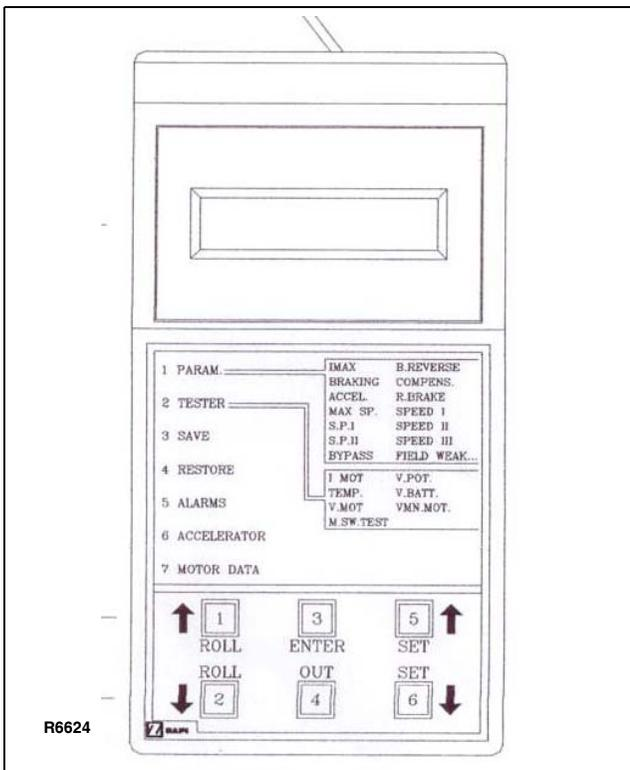

Figure 3-2 Zapi Handset
2. Press the ENTER button (3, Figure 3-2) to enter the MAIN MENU.
3. Press the ROLL down button (1) or the ROLL up button (2) to find the PARAMETER CHANGE display.
4. Press the ENTER button (3) to view the parameters.
5. Press the ROLL down button (2) or the ROLL up button (1) to find the parameter to be checked.
6. Press the SET up button (5) or the SET down button (6) until the factory setting is reached.
7. Press the OUT button (4) to exit the parameters. The confirmation request appears.
8. Press ENTER button (3) to accept the changes or press OUT button (6) to refuse the changes.
9. Press the OUT button (6) again to return to Opening Zapi Menu.